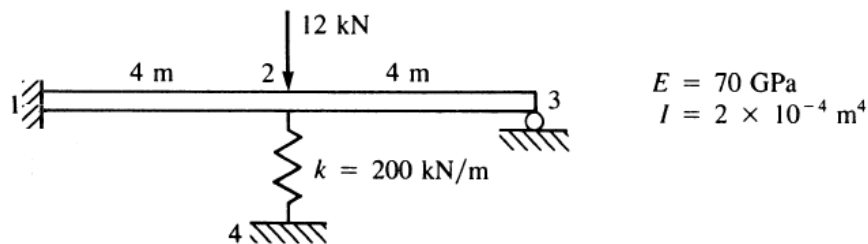

Figure 2
- 1B. For the beam shown in Figure 2. Determine the nodal displacements and slopes. (05)